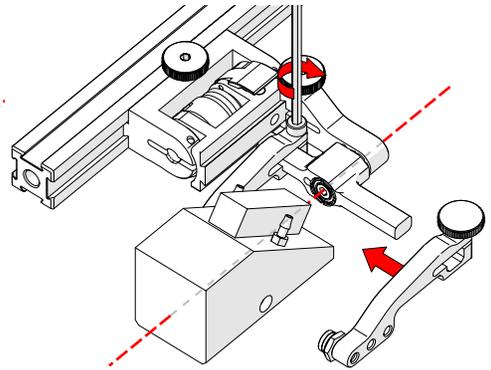

Fig. 153 - Place wedge
7. Position the wedge on the inner probe holder arm (Fig. 153).